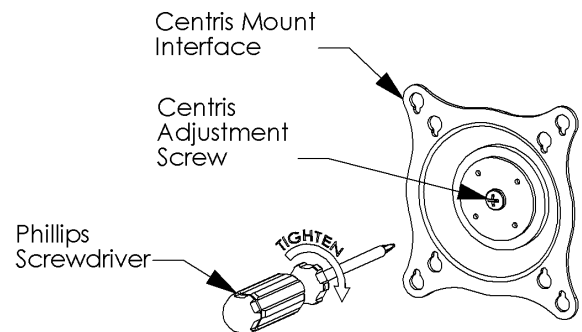

Figure 12. Adjust Centris Adjustment Screw
1. Test the Centris adjustment by tilting, pitching, and rolling the Centris mount interface (see Figure 12).